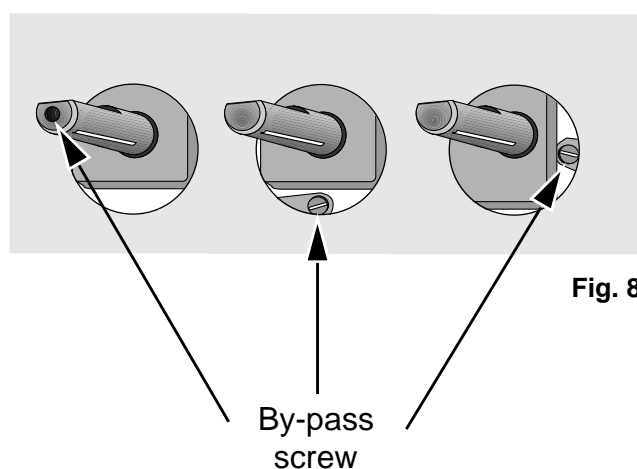

Fig. 8
- With a thin screwdriver, adjust the by-pass screw (see Fig. 8). If changing from natural gas to LPG, completely tighten clockwise the screw, until a small regular flame is obtained.